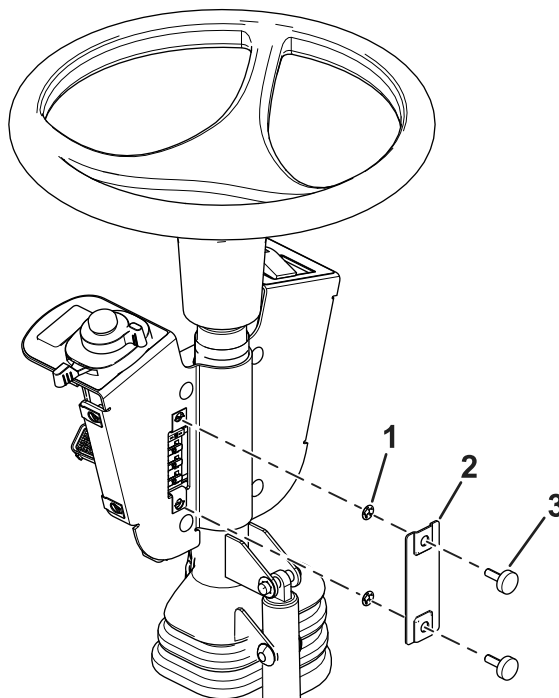

Figure 12
13. Install the fuse cover to the switch mount using 2 thumb screws and 2 push nuts (Figure 12).
Note: Ensure that the push nuts are installed on the inside of the fuse cover (Figure 12).